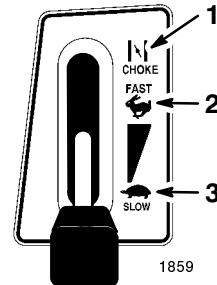

Figure 8
4. Move the throttle lever to "CHOKE" (Fig. 8).
6. After the engine starts, slowly move the throttle lever to "FAST" (Fig. 8). If the engine stalls or hesitates, move the throttle lever back to "CHOKE" for a few seconds. Then move the throttle lever to "FAST." Repeat this as required.
1. Move the throttle lever to “FAST” (Fig. 8).